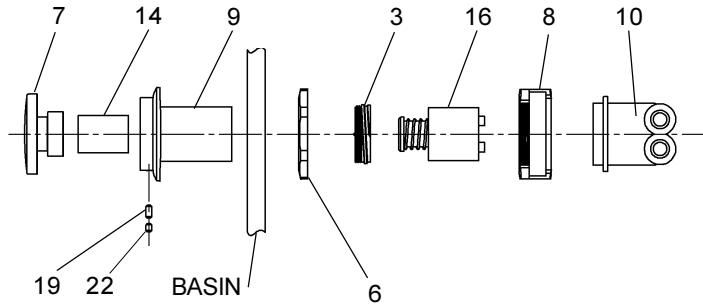

FIG. 4
7. Check stream height from bubbler. Stream height is factory set at 35-40 PSI. If supply pressure varies greatly from this, remove items 7 & 14 (See Fig 4, Page 4) by loosening set screw (item 19) and adjust the screw on regulator (item 16). Clockwise adjustment will raise stream height and counter-clockwise adjustment will lower stream height. For best adjustment stream height should be approximately 1-1/2" (38mm) above the bubbler guard (See Figure 5, Page 4).